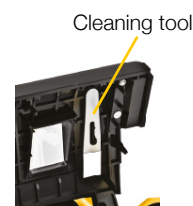

Figure 11
A cleaning tool is located inside the label compartment cover. The tool has two pads, a felt pad for cleaning the print head and a sponge pad for cleaning the sensors. See Figure 11.
- 3 Remove the cleaning tool from inside the label compartment cover. See Figure 11.